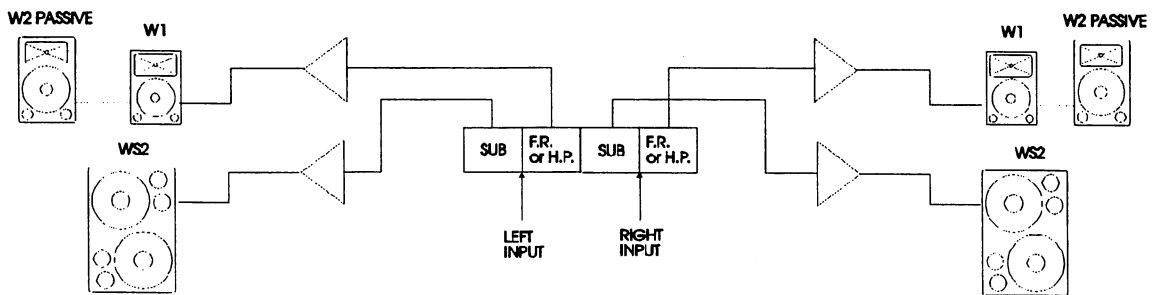

FIG. 10 W1 or W2 Passive with Sub Bass Operation using WX3S
The WX3S may also be used to drive a sub-bass system to augment the W1 and passive W2 systems (see Fig. 10). The WX3S is normally operated in 100Hz High-pass/Crossover Mode (B) (see Section 7.3) for this configuration, although it may be operated in Overlap Mode (C) if overlap is required for flown systems. Full-range Mode (A) should only be used with care, in special cases where distant flown systems are required to run full-range. Some cancellation may occur if the W1/W2 is located in close proximity to the sub-bass enclosure. However, this cancellation may simply be resolved by reversing the phase of the sub-bass system.